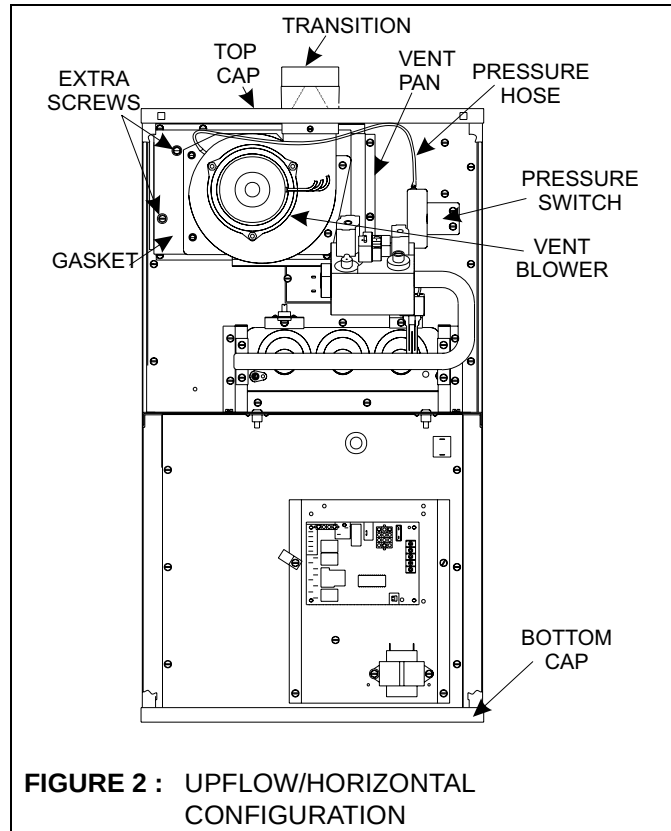

FIGURE 2 : UPFLOW/HORIZONTAL CONFIGURATION
9. Rotate the vent blower and transition 180° so that its outlet points to the outlet air end of the furnaces as shown in Figure 2.
11. Install the two extra machine screws in the two open holes in the front of the vent pan See Figure 2.
15. Install the top cap at the same end of the furnace as the vent blower, using the sheet metal screws saved earlier. See Figure 2.
16. Install the bottom cap on the bottom of the furnace using the sheet metal screws saved earlier. See Figure 2.